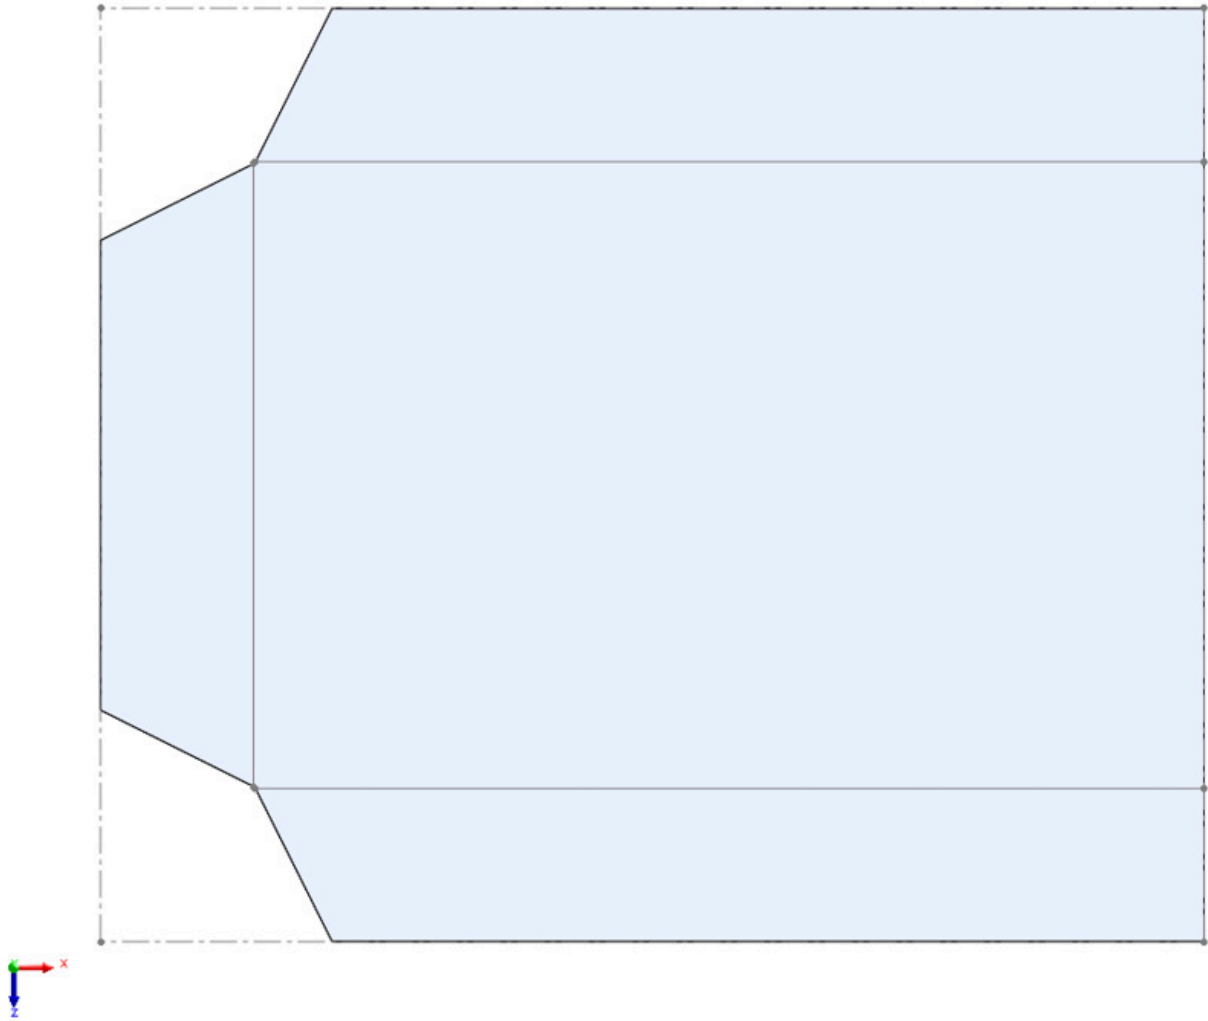

Figure 2.16: The flattened part, showing the non-perpendicular, trimmed edges
5. The **part** can now be flattened to display the trimmed edges more clearly. Select the **Flatten** option from the **Sheet Metal** Tab or Toolbar. You will see that the flattened sheet (*Figure 2.16*) has corners that aren't perpendicular, which is due to the automatic trimming that occurred on the adjacent edges.